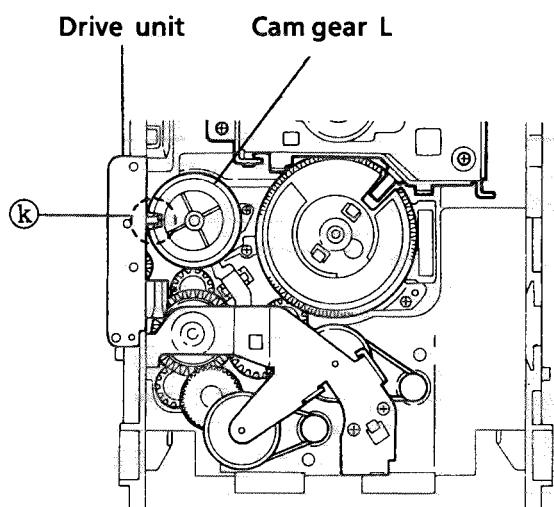

Fig. 34
2. Rotate the Cam gear L so that the drive unit's pawl ⑤ is positioned as shown in Fig. 34.